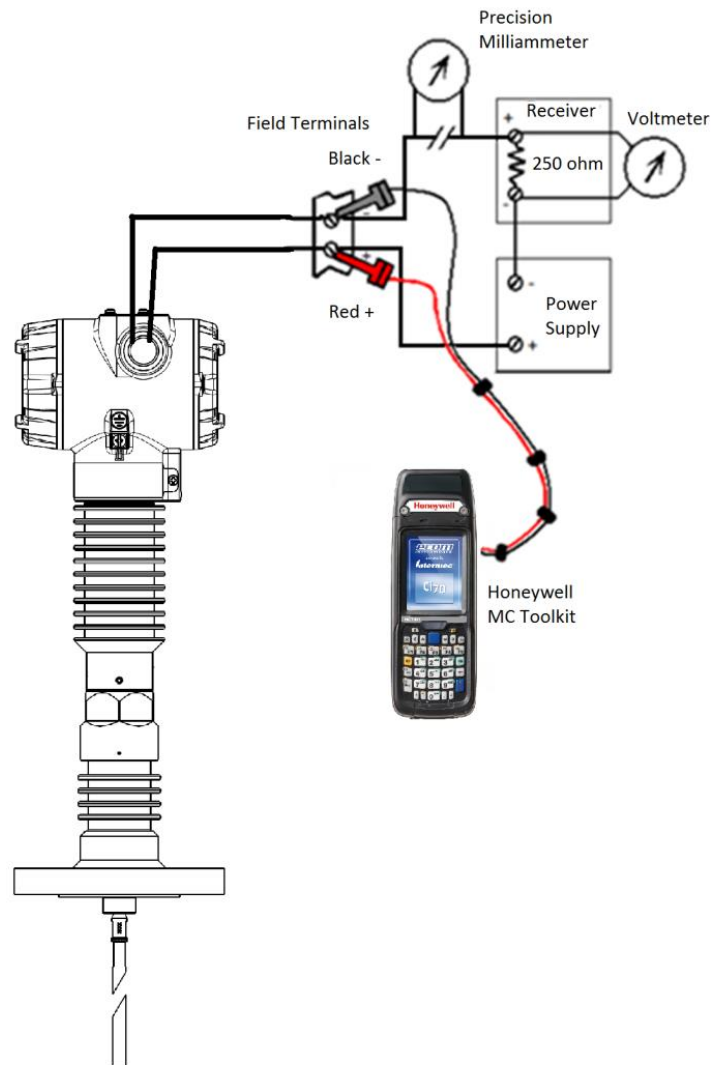

Figure 5-1: Current Loop Test Connections
1. Refer to Figure 5-1 for test connections. Verify the integrity of electrical components in the output current loop.